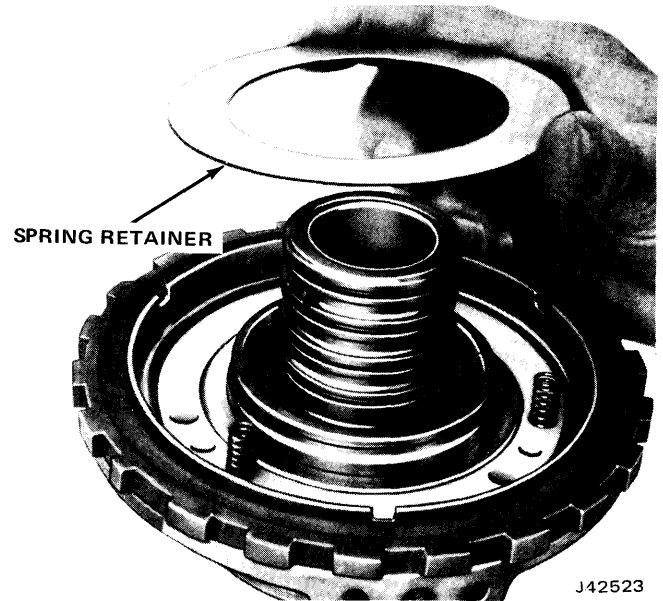

Fig. 7-99 Installing Spring Retainer
(7) Place spring retainer over springs (fig. 7-99).